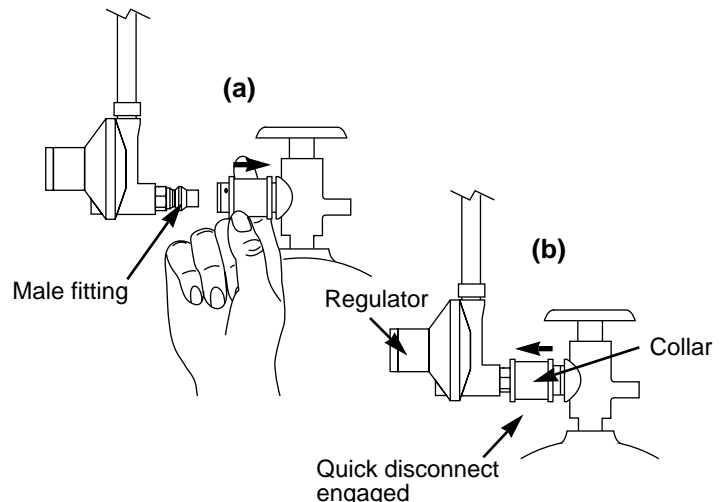

Figure 9
- c) Connect the hose to the tank. Route the hose so it does not interfere with the scale indicator rod. Slide back the collar of the quick disconnect on the tank valve. Figure 9 (a). Push the male fitting of the regulator into the quick disconnect, and maintain pressure. Slide the collar closed. Figure 9 (b). If it does not engage or lock, repeat procedure. Gas will not flow unless the quick disconnect is properly engaged.